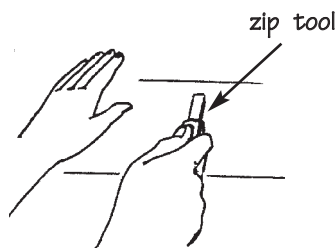

Figure 76.
- Slip the unlocking tool behind the bottom of the panel above the one to be replaced and unzip it from the lock on the damaged panel (Fig. 76).